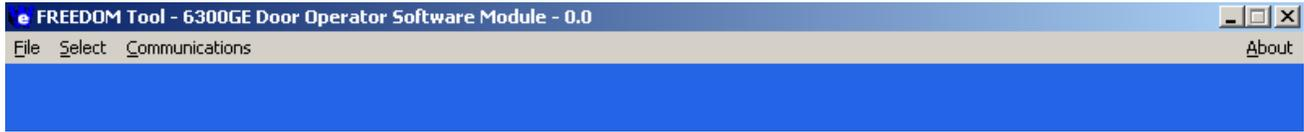

Figure 23
3. The **Main** window is displayed as shown in Figure 23. Choose **Select** and then **Door Window** to open a communication session with the 6300GE Door Operator.